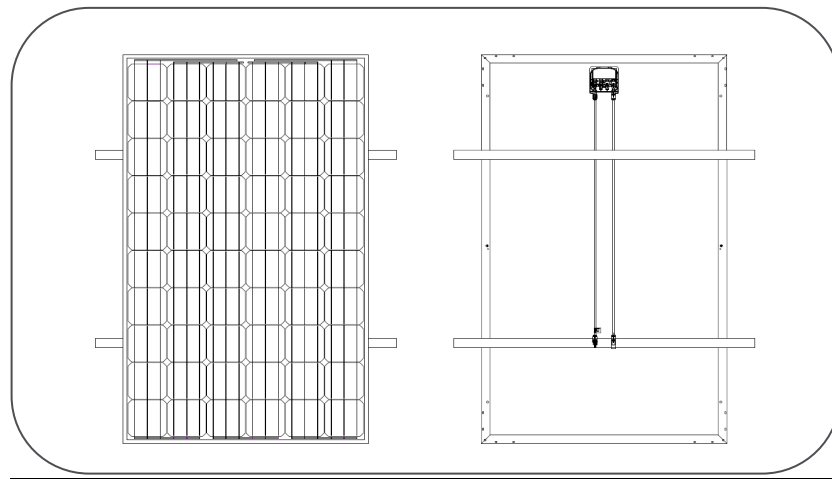

Figure 1 Top view and back view of installed module
- The clamping clips on the side frame must be in parallel (see Figure 1).